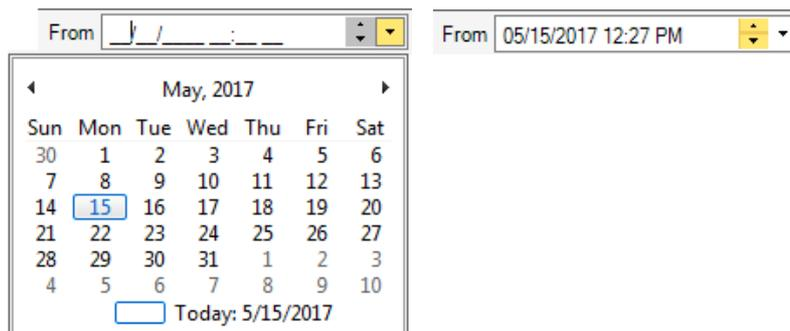

Figure 4-81. Date selection and Time justification on System Log page
- To filter by a **date** or **time range**, click the triangle that opens a calendar sheet to select the begin in the **From** box and the end in the **To** box, see Figure 4-81.